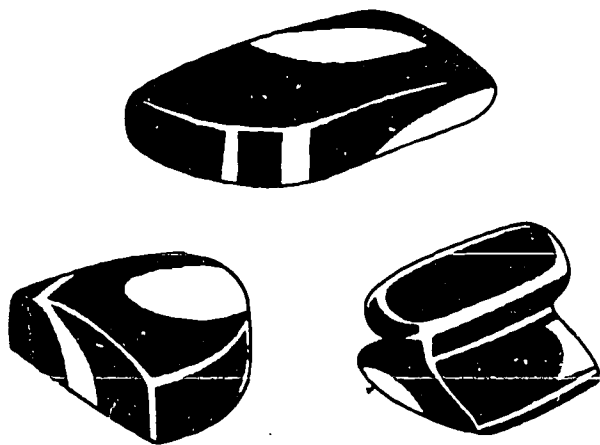

Figure 3-13. Hand dollies.
**Dollies.** Hand dollies, which are commonly called bucking bars in sheet metal shops, may be shop made or purchased commercially. They are available in various sizes and shapes, as shown in figure 3-13. They may be used when forming metal. They may also be used when riveting in places where access to the job is difficult or at jobs away from the shop where stakes are not available.